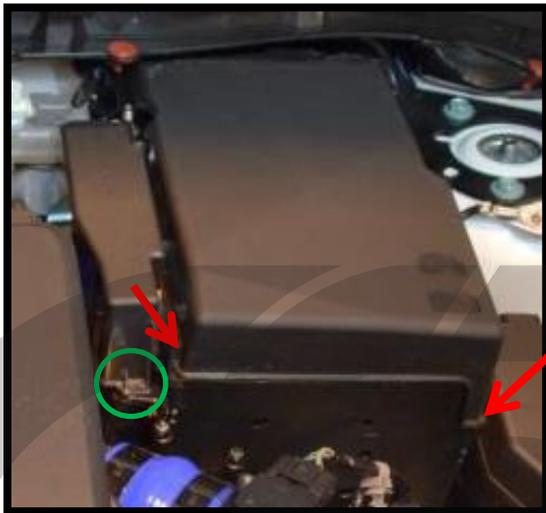

Figure 1b
- b) **Remove the battery cover by pulling the two locking tabs and lifting the lid upward and forward at the same time.** (Red Arrows in Figure 1b)
- c) **Remove the ECU cover by pulling upward on the side closest to the air filter, and then forward.** (Green Circle in Figure 1b)